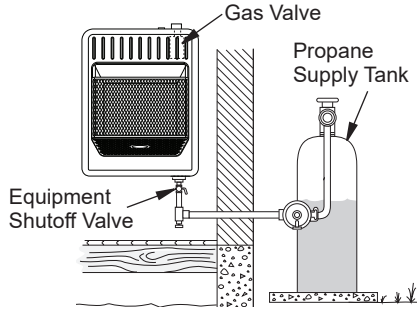

Figure 19 - Checking Gas Joints for Propane Gas
3. Check all joints from gas meter to equipment shutoff valve for natural gas or propane supply to equipment shutoff valve for propane (see Figure 19 or 20). Apply a noncorrosive leak detection fluid to all joints. Bubbles forming show a leak.
4. Check all joints from equipment shutoff valve to control valve (see Figure 19 or 20). Apply a noncorrosive leak detection fluid to all joints. Bubbles forming show a leak.